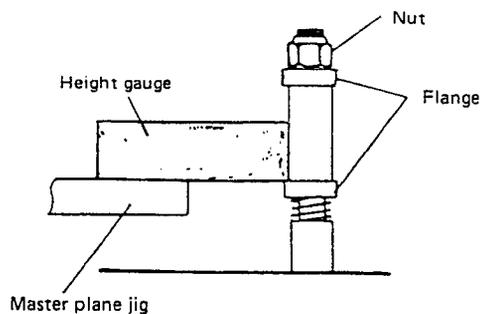
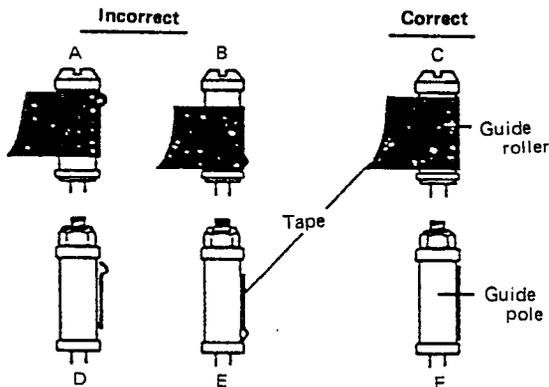

Fig. 19 Guide pole height adjustment
Fig. 23 Guide roller and guide pole
1. Set the master plane jig as shown in Fig. 19.
2. Set the height gauge on the master plane jig as shown in Fig. 19.
3. During Loading, Play and Unloading, observe the tape at the supply and take up guide rollers and guide poles. Confirm absence of curling, wrinkling, etc., as shown in Fig. 23.
2. Use a metric nutdriver to turn the supply guide pole to align the upper flange of the guide pole with the upper edge of the tape as shown by F of Fig. 23. However, this adjustment must be performed so that at the same time, the upper flange remains within  $\pm 0.5$  mm of the height adjusting jig portion shown in Fig. 19. If there is a large discrepancy, check the height of the supply reel disk, tension pole and other mechanical components.